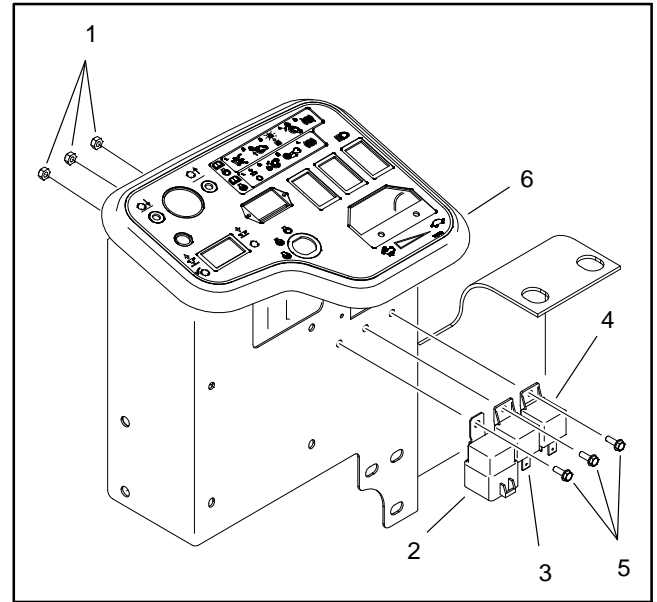
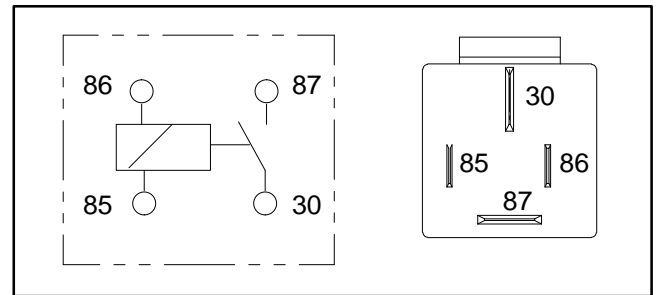

Figure 22
Figure 23
The main power relay is secured to the control panel assembly next to the operator seat (Fig. 22). This relay is attached to the wire harness with a four (4) wire connector (Fig. 23). The relay can be accessed by removing the control panel cover.
3. Remove cover from control panel and locate main power relay (Fig. 22).